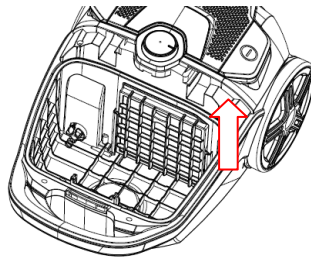

Fig 14
2. Inlet filter: clean the filter with warm water and allow to dry fully before placing back into the unit. (Fig 14)